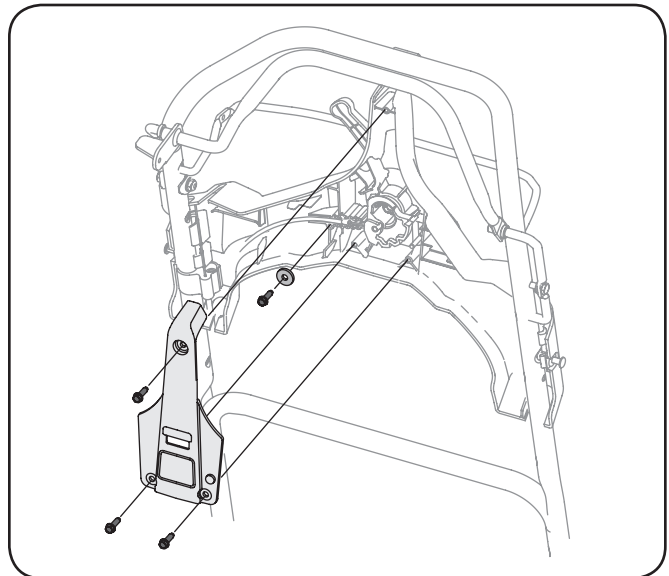

Figure 6-3
4. Remove back cover of speed control housing by removing the three screws securing it to the housing. See Fig. 6-3.
5. Remove screw and flat washer securing cable. See Fig. 6-3.